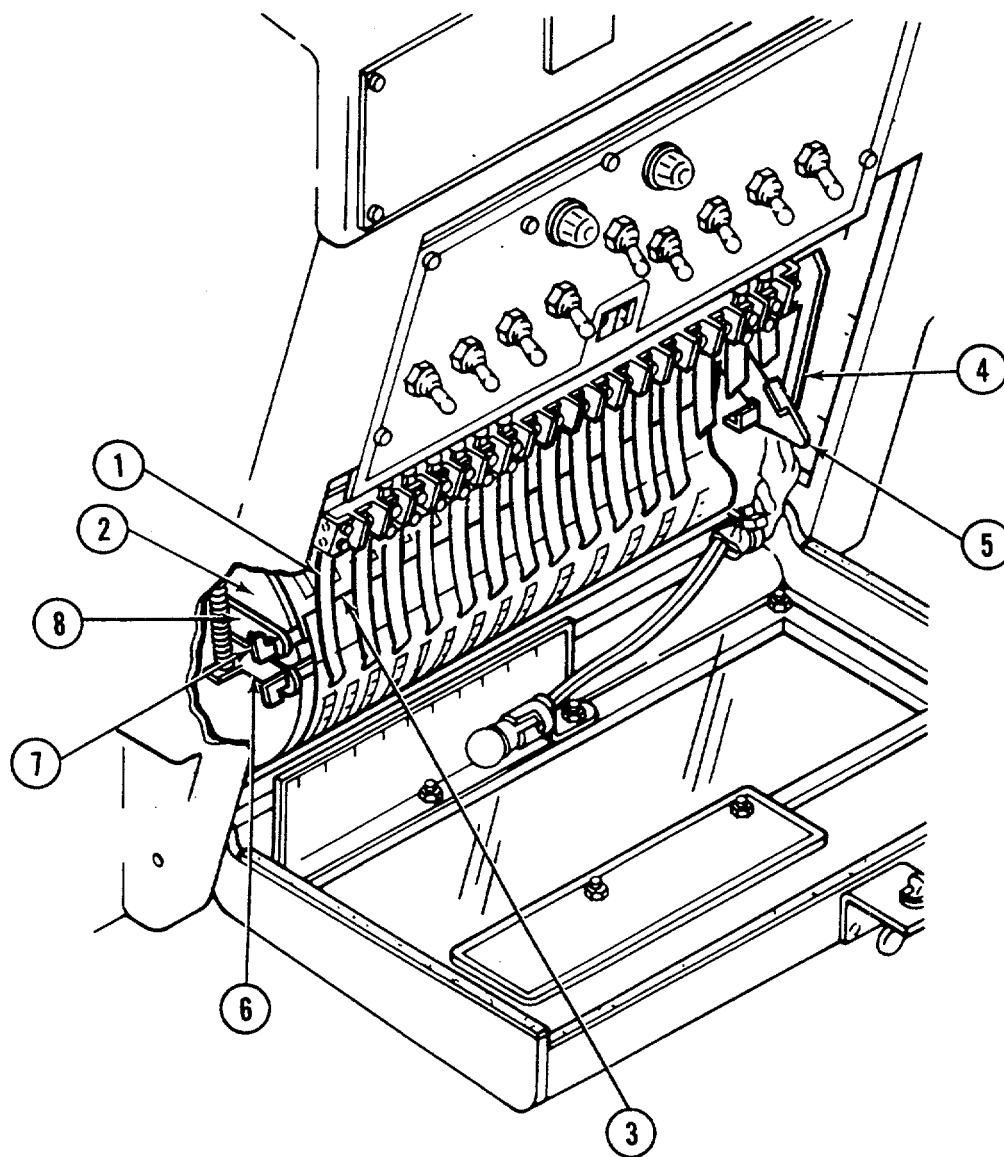

Figure 2-21. Formula chart removal .
- (b) With contact fingers (1, FIG. 2-21) locked in place on cylinder (2), turn the cylinder until the fingers are at the start position on formula chart (3).
- (c) Unlock contact fingers (1) from cylinder (2) by pushing contact finger locking bar (4) in slightly. While holding the locking bar in, pull locking clamp (5) up and release the locking bar.
- (d) Pull contact finger locking bar (4) out and up until contact fingers are not in contact with cylinder.
- (1)